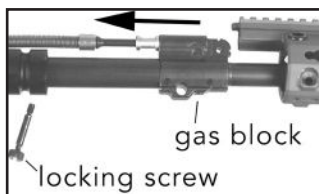

Fig. 71 – Sliding the MRS onto the barrel
1. With the locking screw(s) removed, slide the handguard over the barrel until it engages the barrel nut. Be sure no mechanical sights are installed on the gas block to interfere with sliding the MRS into position (Fig. 71, 72).